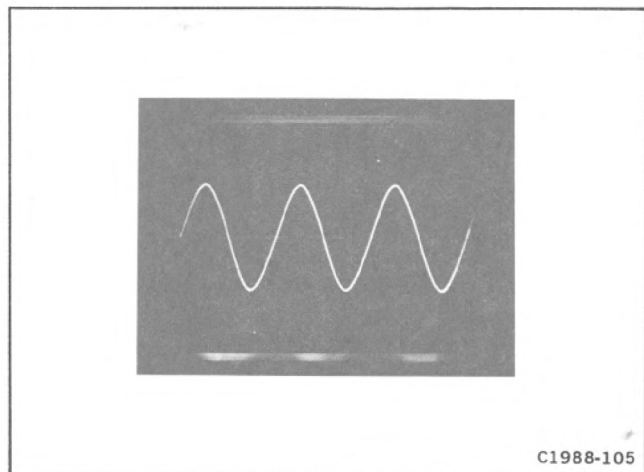

Figure 4-8. Waveform at IP34 on the A23 Power Supply Inverter circuit board with the line-voltage at about 20 volts.
6. If no burst waveform occurred in part 4, repeat part 1 of this step. Then remove the current probe from the 7904A and the test oscilloscope. Connect a 10X voltage probe from the test oscilloscope to TP34 on the A23-Power Supply Inverter board. (Assuming that access to the A23 Power Supply Inverter circuit board has previously been gained, remove the line inverter shield from the circuit board. TP34 is labeled "TANK" on the A23 Power Supply Inverter circuit board.) Set the variable autotransformer for 20 volts and check for a filtered line waveform which is centered at 0 volt (see Fig. 4-8). If the waveform is not centered check Q46, CR32, CR40, CR49, and CR45 for shorts or leakage.